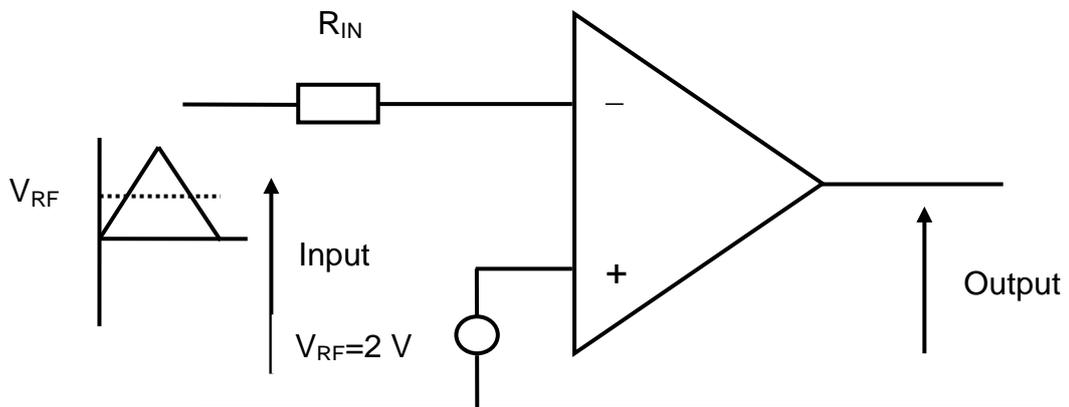

FIGURE 7.2: OP-AMP CIRCUIT
7.3 FIGURE 7.2 below is an op-amp circuit.